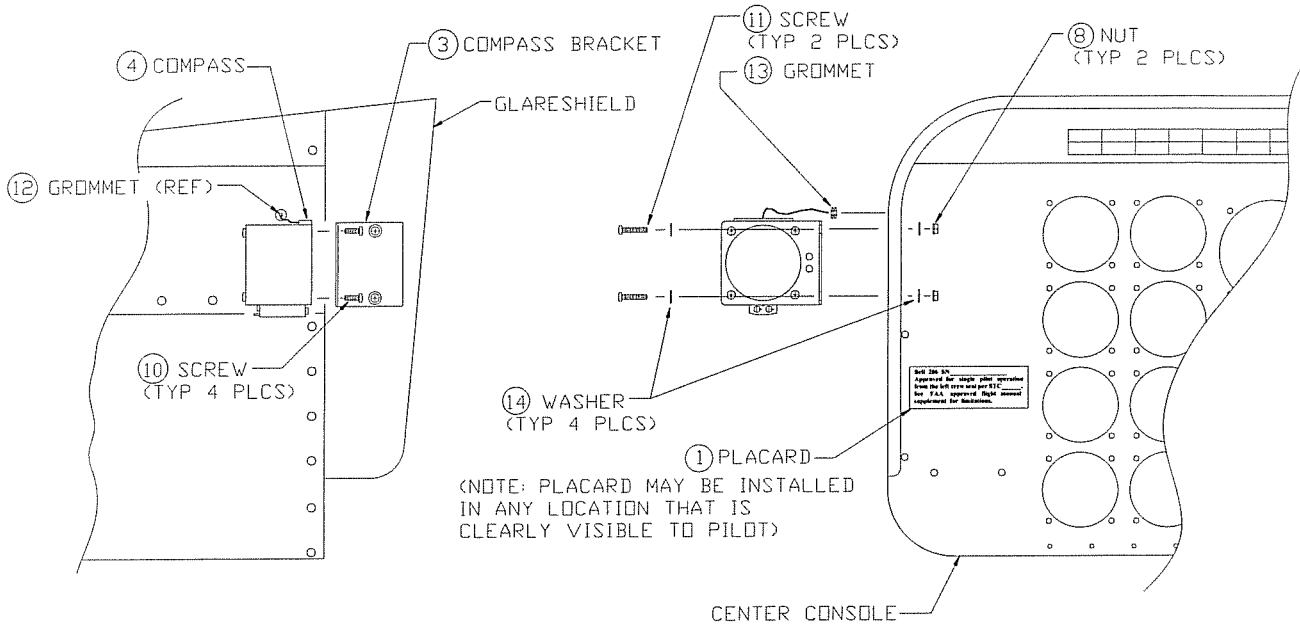

Figure 1. 206LS-200-1 Installation
3.2.3 Install compass assembly on the instrument panel shroud with the fastening hardware as shown in figures 1 and 2.